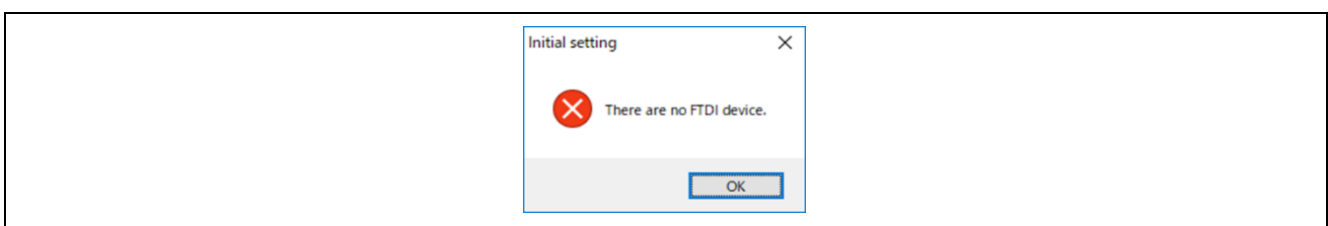

Figure 5-2. Error Dialog
- ① Connect the PC and hardware using an FTDI-manufactured USB serial conversion cable and execute the DataCollectionTool_for_RX.exe file. For instructions on connecting the hardware, see Reference Document [1]. If you open the exe file before connecting the PC with a USB serial conversion cable, the error shown in Figure 5-2 will appear on the screen.